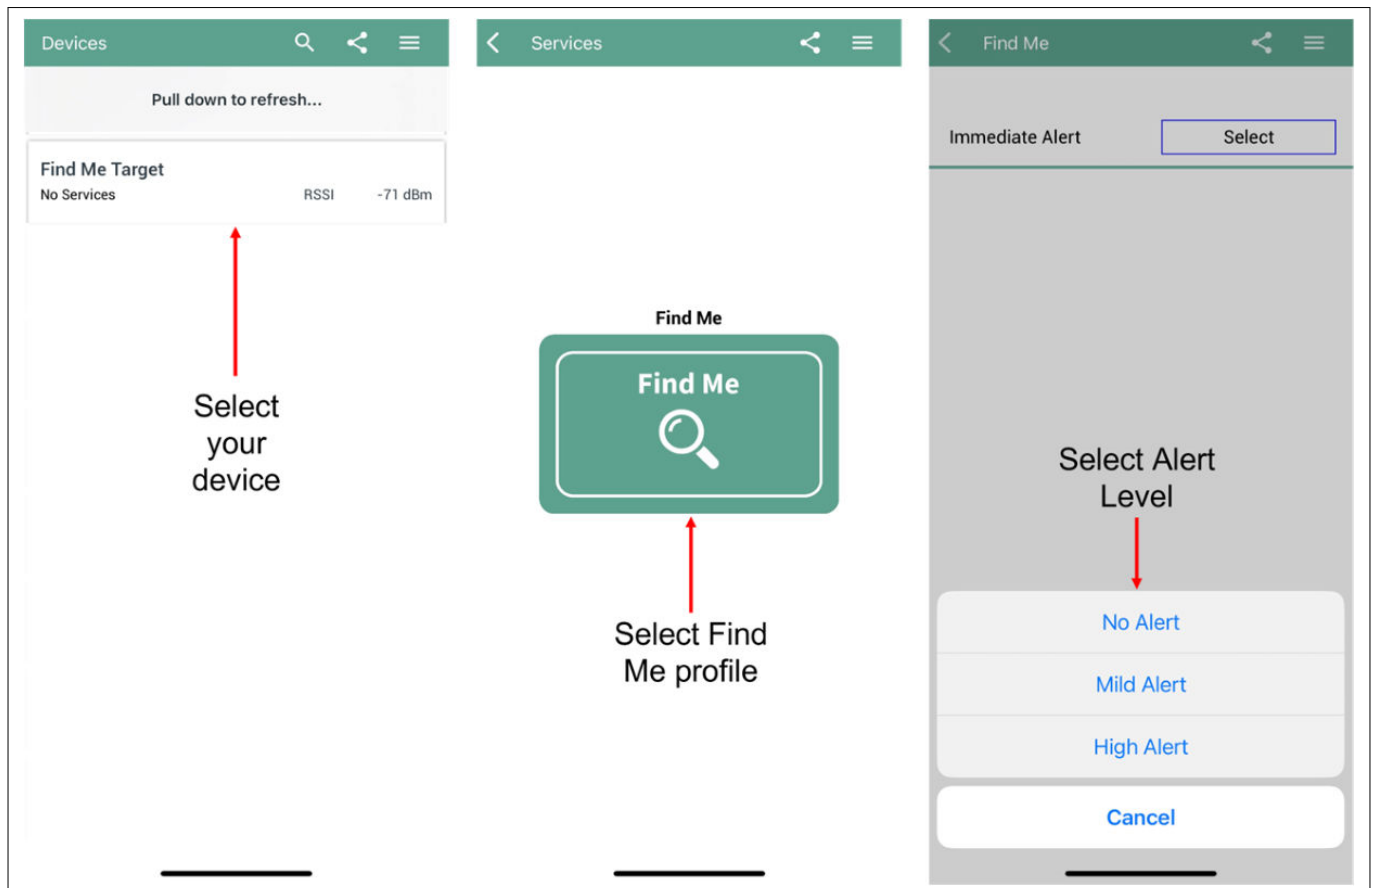

Figure 32 Testing with the AIROC™ Bluetooth® Connect app on iOS
3. To test using the AIROC™ Bluetooth® Connect mobile app, follow these steps (see equivalent AIROC™ Bluetooth® Connect app screenshots in Figure 32 for iOS and Figure 33 for Android).